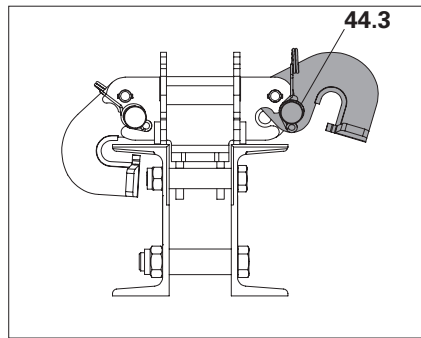

Fig. D2.04
1. Lift safety pin (44.3). (Fig. D2.04 + D2.04a)